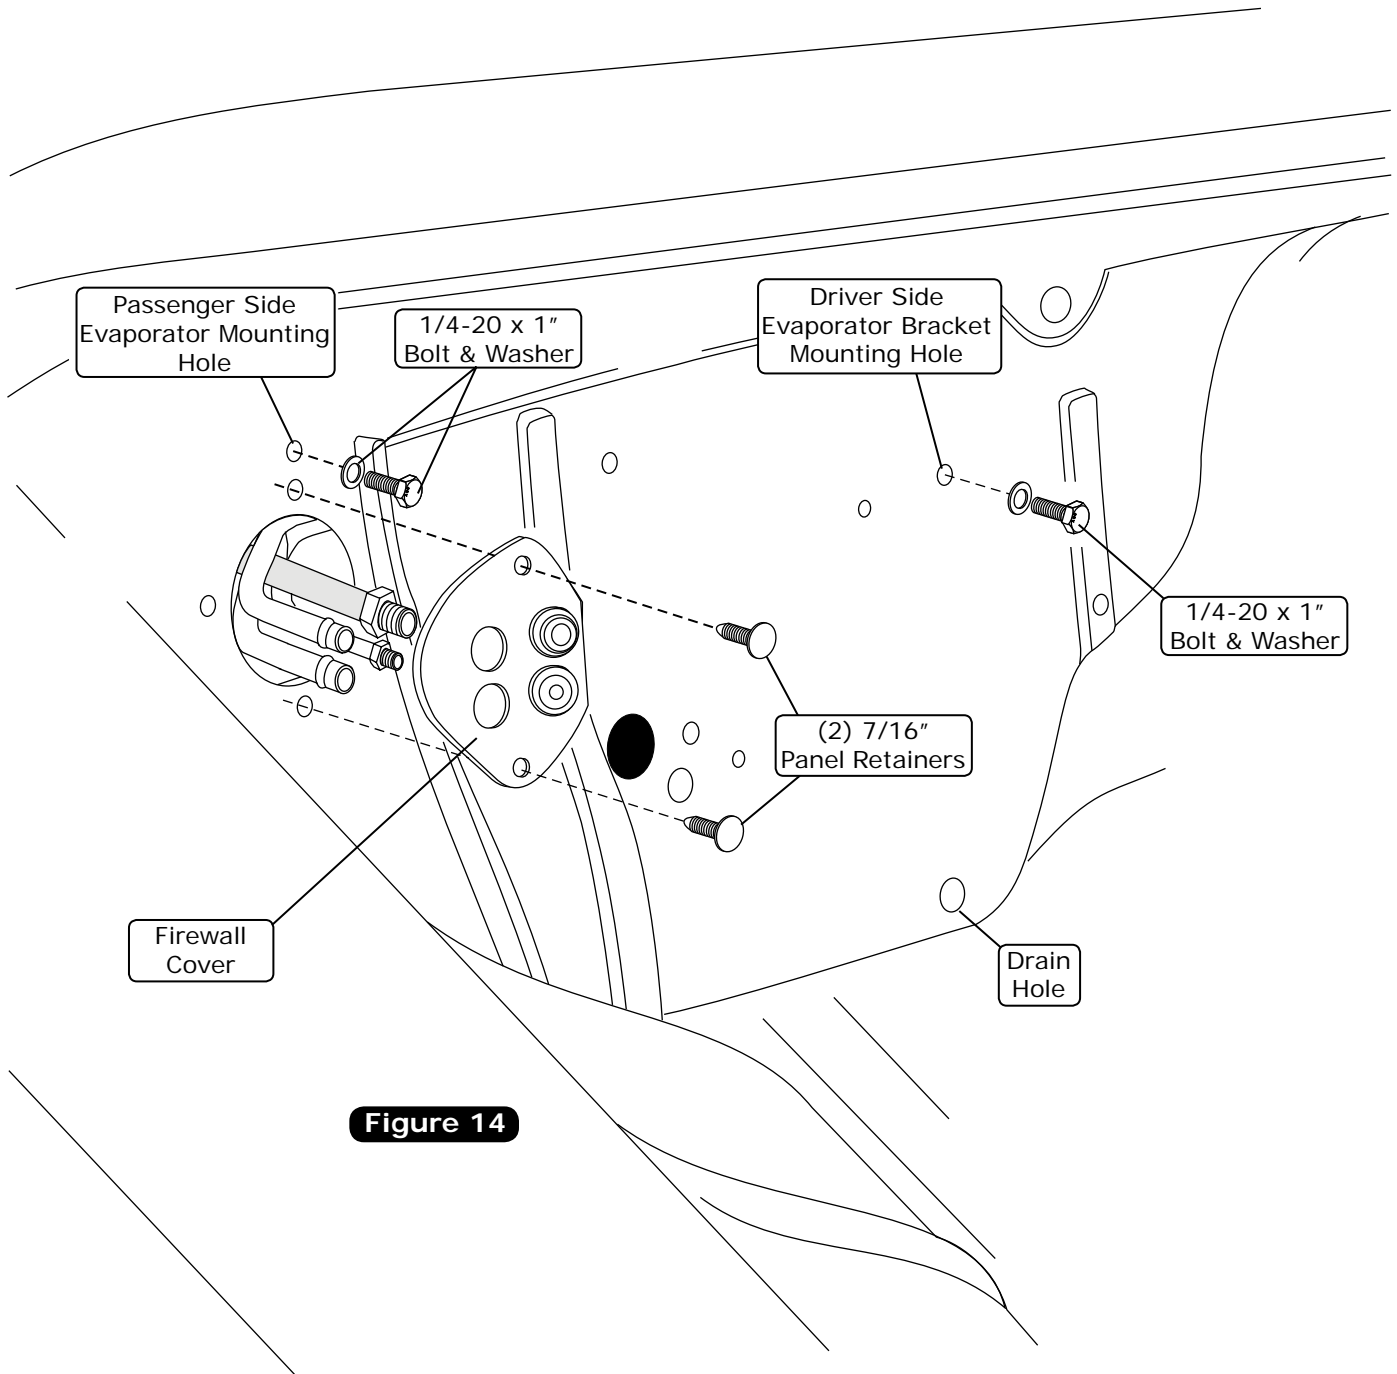

Figure 14
1. In line with the drain, lightly make a mark on the firewall. Measure 1" down and drill a 5/8" hole through the firewall (See Figure 9, below). **NOTE: See Figure 14, Page 16, for the rough location of the drain hole.**
2. Install the drain hose onto the bottom of the evaporator unit, and route through the firewall (See Figure 9, below, and Figure 14, Page 16).
6. Install the firewall cover (See Figure 14, Page 16).
1. Pass the lines through the firewall cover, and secure with (2) 7/16" panel retainers (See Figure 14, below).